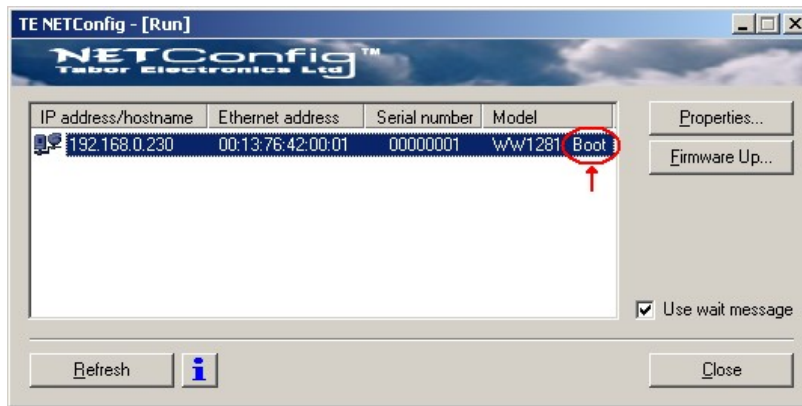

Figure 7-6, WW1281 has been Detected on the LAN Network
5. As soon as the progress bar reached the far right hand of the bar, click on the Refresh button. If your device was connected and booted correctly, the device address will appear in the device list, as shown in Figure 7-6.